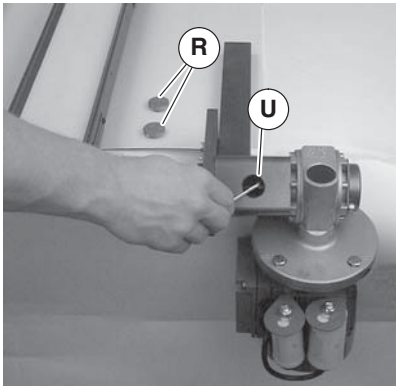

Figure 10
16. Tighten coupling set screws (Figure 10, item U). Replace inspection plugs (R).